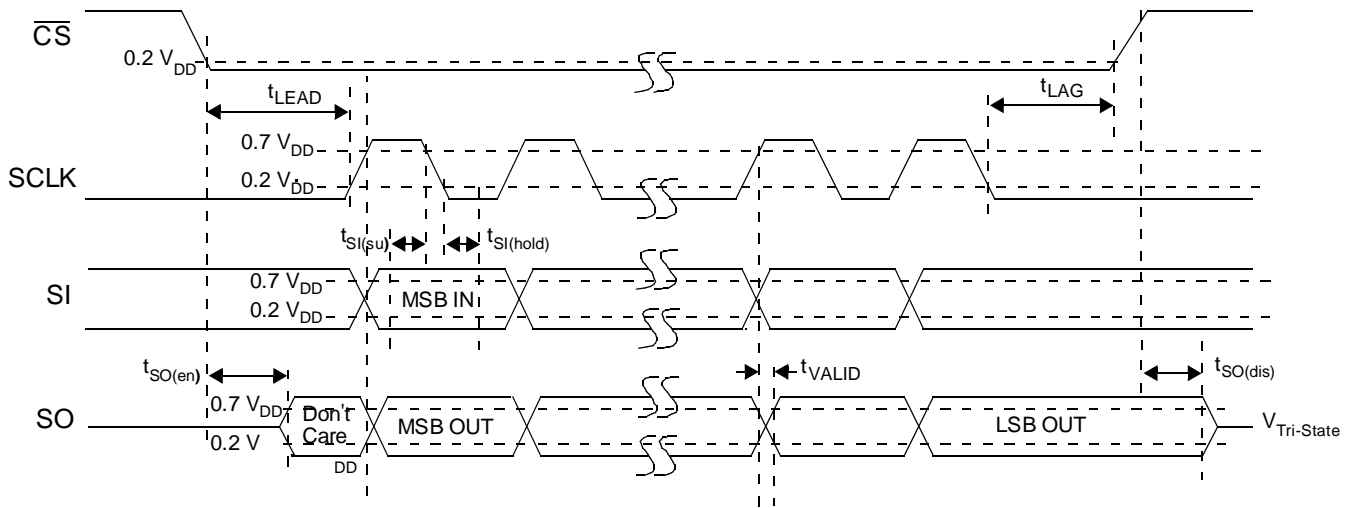

Figure 4. SPI Timing Characteristics
The Serial Input (SI) pin is used to enter one of seven serial instructions into the 33999. SI SPI bits are latched into the Input Shift register on each falling edge of SCLK. The Shift register is full after 24 bits of information are entered. The 33999 operates on the command word on the rising edge of \overline{CS} . To preserve data integrity, exercise care to not transition SI as the SCLK transitions from high-to-low state (see Figure 4, page 8).